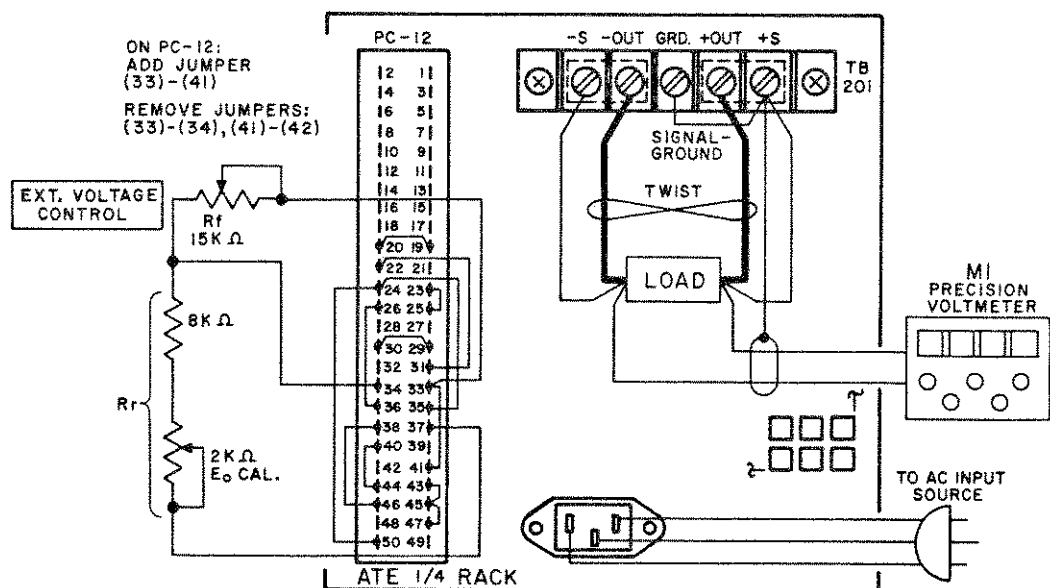

FIG. 3-8 CONNECTIONS FOR VOLTAGE CONTROL WITH A TWO-TERMINAL RESISTANCE.
- 1) Connect the external components, the LOAD and the PRECISION VOLTMETER (M1) to the ATE as shown in FIG. 3-8.